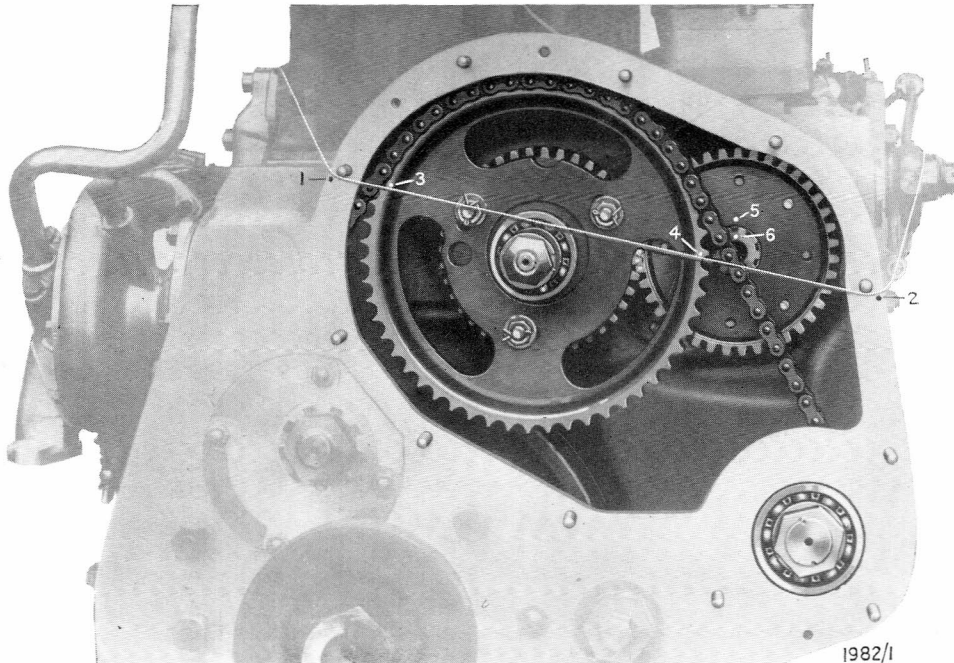

Fig. 45. Timing Marks for Valves and Fuel Injection
- (1) The dots 1 and 2 on the gearcase and the dots 3 and 4 on the periphery of the valve camshaft gear will all lie on a straight line as indicated by the stretched cord in Fig. 45.
- (2) Through the sight hole in the large chain gear will be visible the teeth of the gears of the valve and fuel pump camshafts and it will be found that the dotted tooth of the gear on the valve camshaft lies between the dotted teeth of the gear on the fuel pump camshaft.
- (3) Through the same sight hole it will be seen that the lune on the edge of the hub of the valve camshaft (described above) is in its correct position. Should the gears be incorrectly bolted together, this defect will, of course, be immediately visible.
- (4) The dotted spline on the camshaft of the fuel pump will register with the dot on the splined hub (see dots 5 and 6 in Fig. 45).